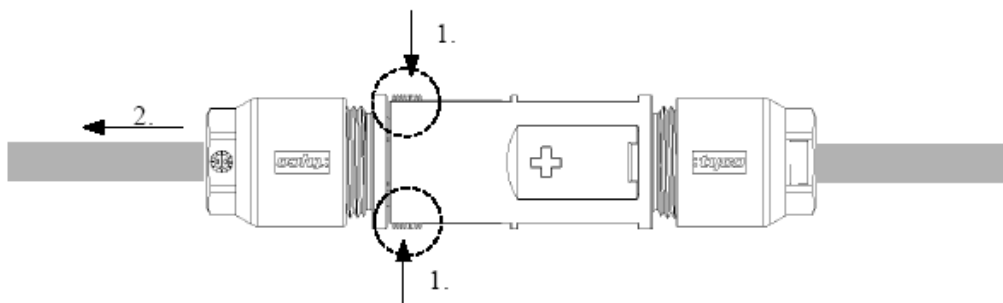

Figure 13
1. The locking mechanism is opened by depressing the latches as shown in Figure 13.